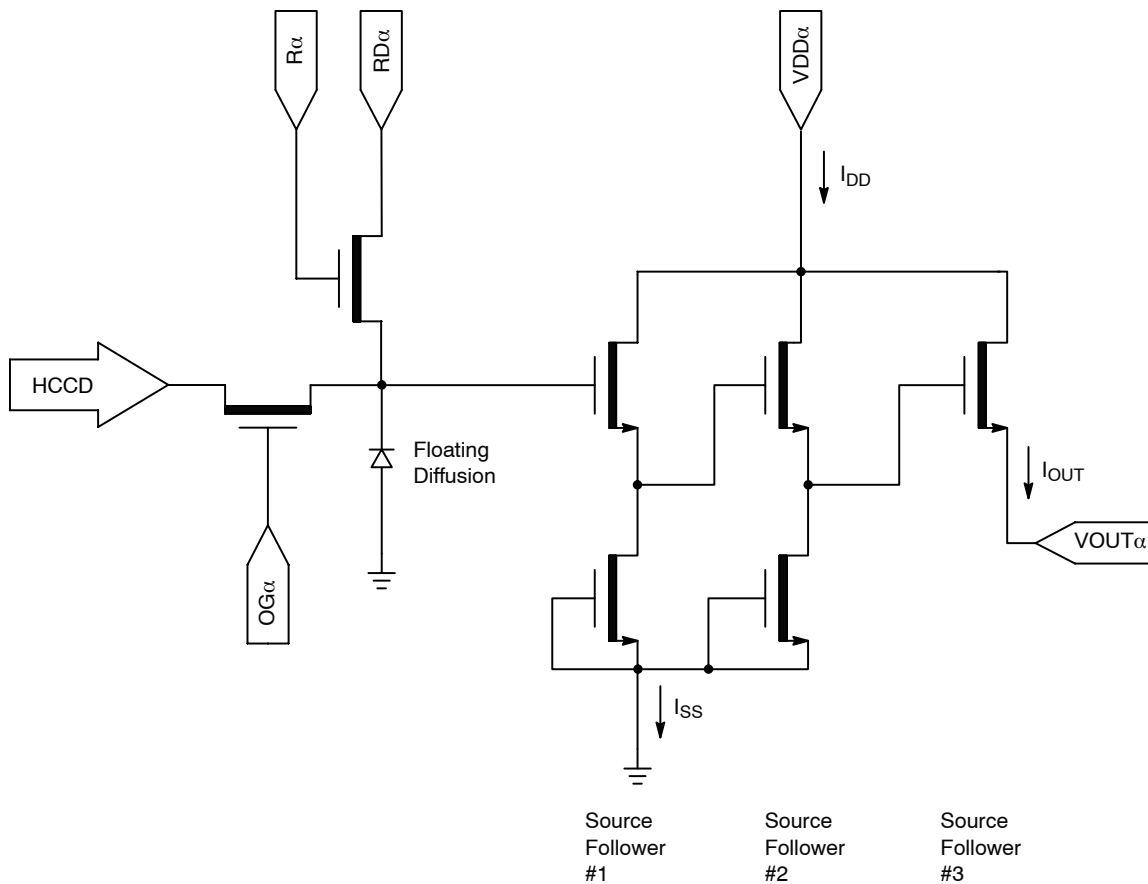

Figure 16. Output Amplifier
2. The maximum DC current is for one output.  $I_{DD} = I_{OUT} + I_{SS}$ . See Figure 16.